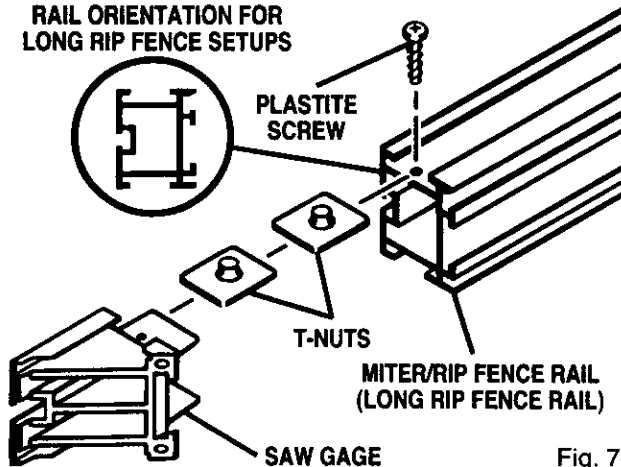

Fig. 7
See Figures 7, 8, and 9.
- Place the long rip fence rail on the saw table. See Figure 7. **IMPORTANT: Rail must be oriented exactly as shown for proper assembly of all parts.** Drilled holes in the rail are on the top channel when using as a long rip fence. They are in the bottom channel when using the rail as a long miter fence.
- Place a saw gage into each end of long miter fence rail. Correct orientation of saw gage to rail is important. Align the slot in the saw gage with the slot in the rail. See Figure 7.